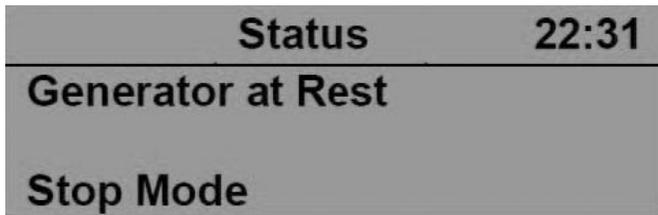

Figure 2-11. Home Page—Engine Stopped
- See Figure 2-11 for Home page when engine is stopped.